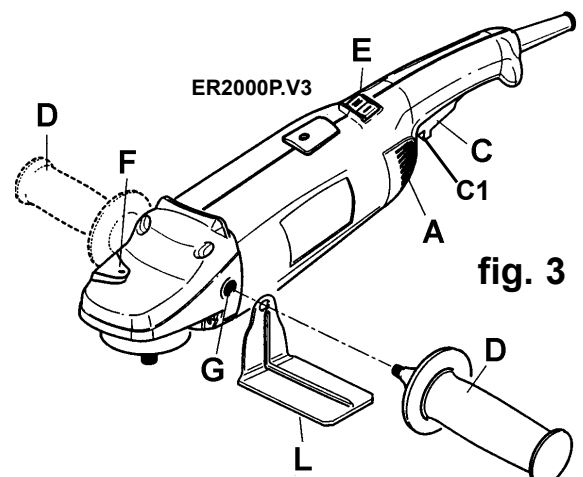

fig. 3
- 5.2.1. Select required speed with the two-speed switch (fig.3.E) and then squeeze the control switch (fig.3.C). Press the two-speed switch to the left (I) for low speed and to the right (II) for high speed.
- 5.2.3. To start the polisher - push forward the safety button (fig.3.C1) and then squeeze the control switch (fig.3.C).